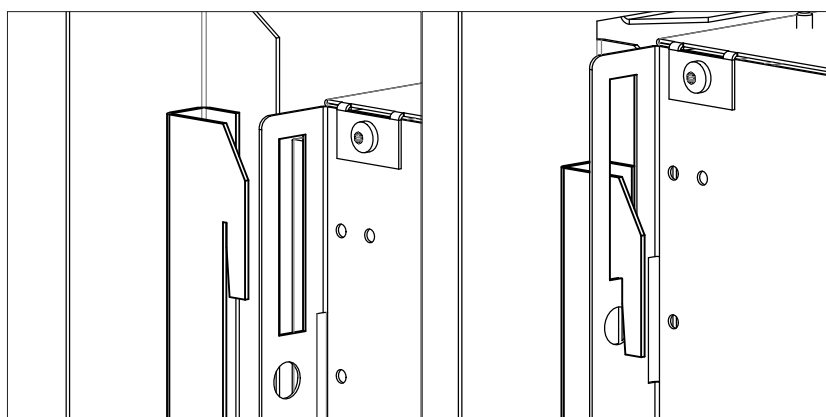

Figure 52: Hook and Tab Close-Up.
2. Align the hooks with their respective tabs (Figure 52), push the surround toward the fireplace and slide the surround down into place (Figure 52).